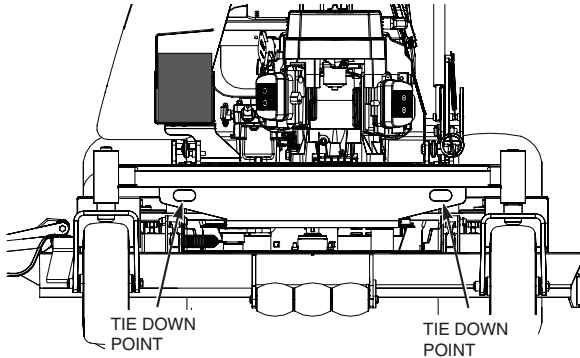

Figure 2-2. Front Tie Down Points
21. Tie the mower down securely using the tie down points located on the front and rear of the machine. See Figure 2-2 and 2-3. Secure using straps, chains, cable, or ropes. Both front and rear straps must be directed down and outward from machine.